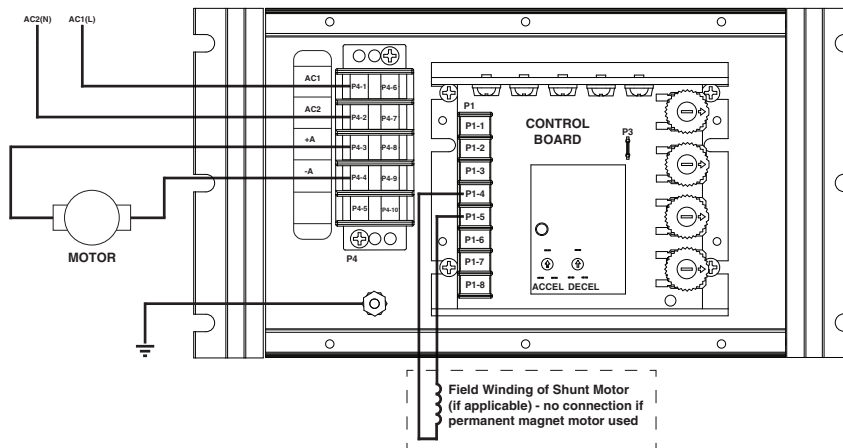

Figure 3 - Control Connection Diagram
Make connections to the control and to the motor in accordance with the Connection Chart. Refer to Figure 3 for AC line and motor connections to the control terminal block that is located at the bottom of the control. To connect the AC line and motor, remove the front cover and support the cover (DO NOT strain the wiring).
CONNECTION CHART (See Figure 3)
3. Check all the connections at the control terminals and at the motor. Make sure that they are tight and are made according to Figure 3 and the Connection Chart.
5. Turn the control ON-OFF switch to the ON position and then slowly turn the Speed Control knob clockwise (CW) while observing direction of motor rotation. If opposite direction of rotation is desired, correct by turning OFF the control and then reverse the motor armature connections.